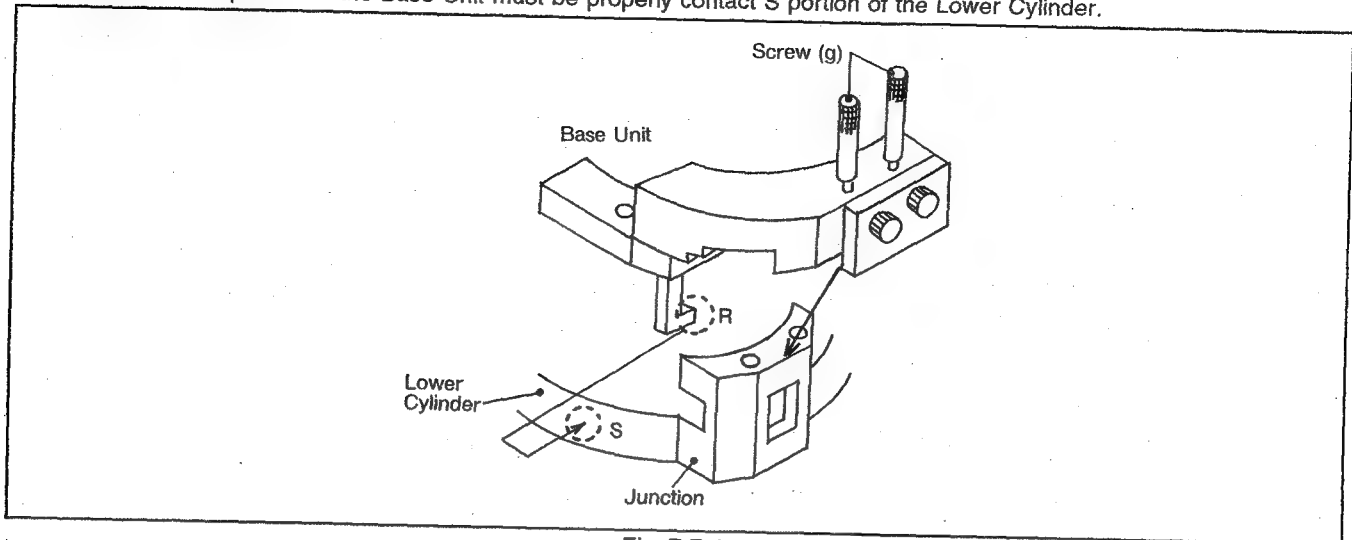

Fig. 7-7-4
1) Install the Base Unit on junction part of Lower Cylinder Unit and tighten stational screws (g) as shown in figure 7-7-4.
- 8) Remove the Base Unit from the Lower drum Unit. (Refer to figure 7-7-4)